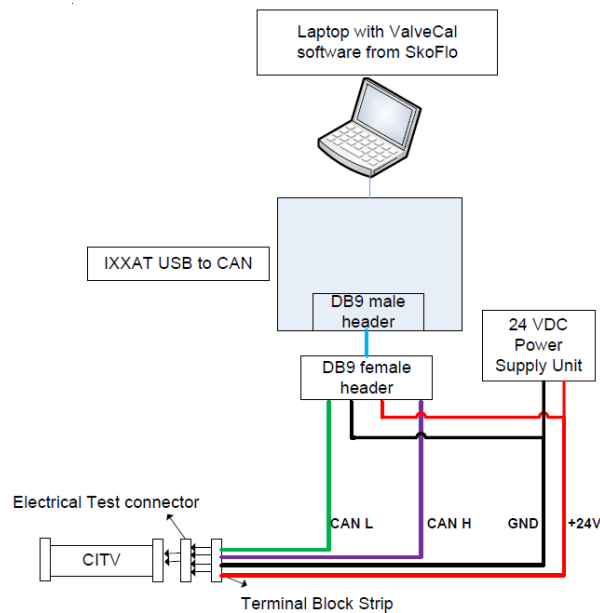

Figure 54: Functional Test Set Up
24.2.7.1.1 Set up CIMV per Figure 54 using the tools listed in Table 8.
5	For functional test without flow through CIMV, setup CIMV per Figure 54.